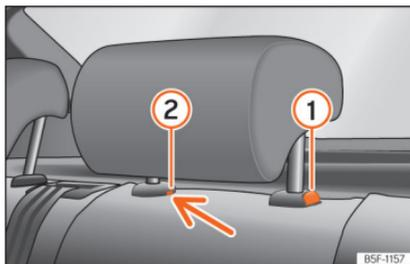

Fig. 122 Rear headrest: removal.
- Press button »» Fig. 122 ①, while simultaneously pressing on the security hole ② with a flat screwdriver a maximum of 5 mm wide, and remove the headrest.